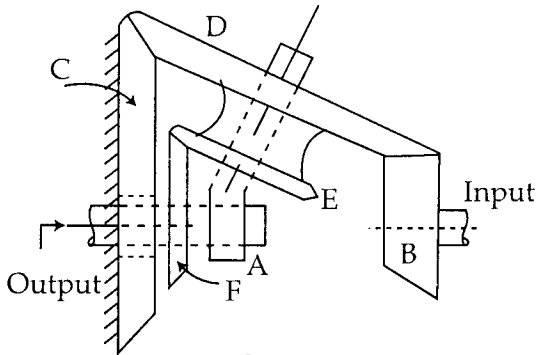

Fig. 4
- (b) Fig. 4 shows a gear train in which wheel C is fixed. Gear B is connected to the input shaft and gear F is connected to the output shaft. The arm A, carrying the compound wheels D and E, turns freely on the output shaft. If input shaft speed is 1000 rpm in counter clockwise sense when seen from right, determine speed of the output shaft. The number of teeth are as follows :